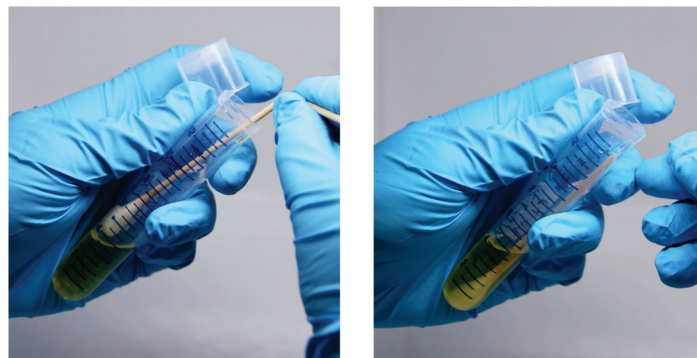

Fig. 4
7. Aseptically break off the head of the swab into the sterile LB broth. Cap the tube. (Fig. 4).